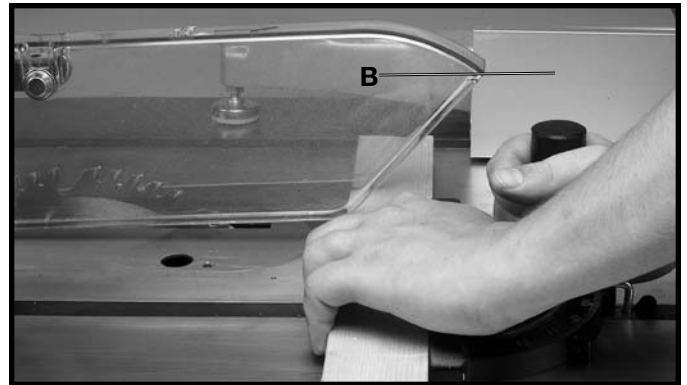

Fig. 58
The fence can be used as a cut-off gage when cross cutting a number of pieces to the same length. **IMPORTANT:** When using the fence as a cut-off gage, it is very important that the rear end of the fence be positioned so the work piece is clear of the fence before it enters the blade. When using the fence as a cut-off gage, position the fence (A) to the front as shown in Fig. 56, or purchase a 12" long fence (B), as shown in Fig. 57. A typical operation using the 12" long fence (B) as a cut-off gage is shown in Fig. 58.